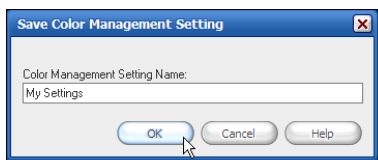

Figure 13—Save Color Management Setting
- the Save Color Management Setting dialog (see Figure 13).